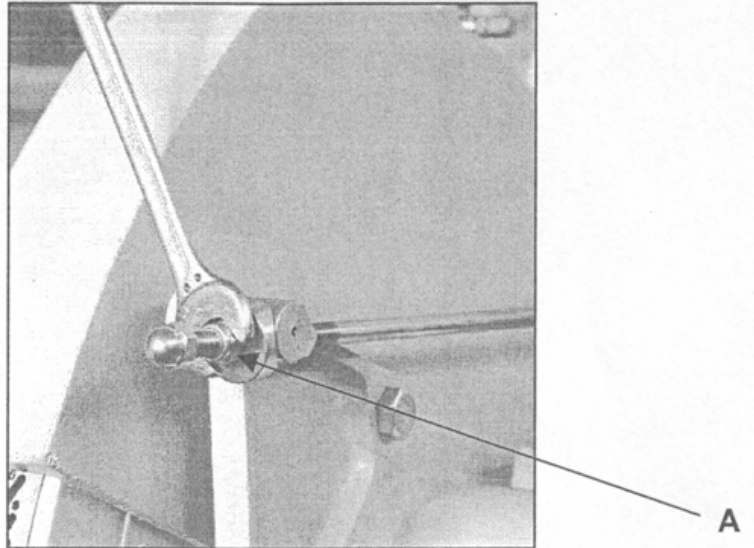

Fig. 9
1. Release the lock nut (Fig. 9 part. A) to release the tie-rod that activates the yellow guard.